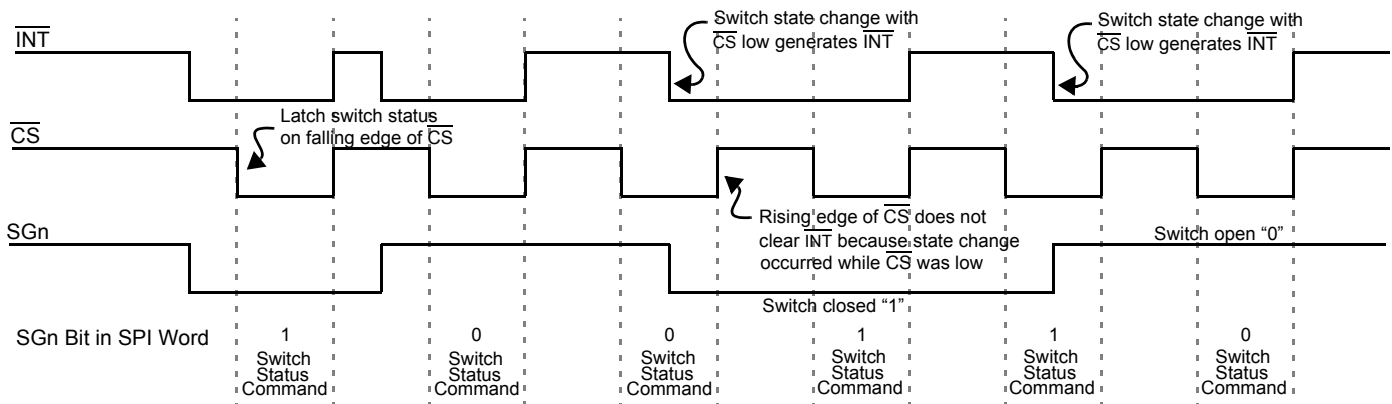

Figure 4. Normal Mode Interrupt Operation
2. \overline{INT} pin is reset to logic [1], except when additional switch changes occur during CS low. (See Figure 4 on page 8.)